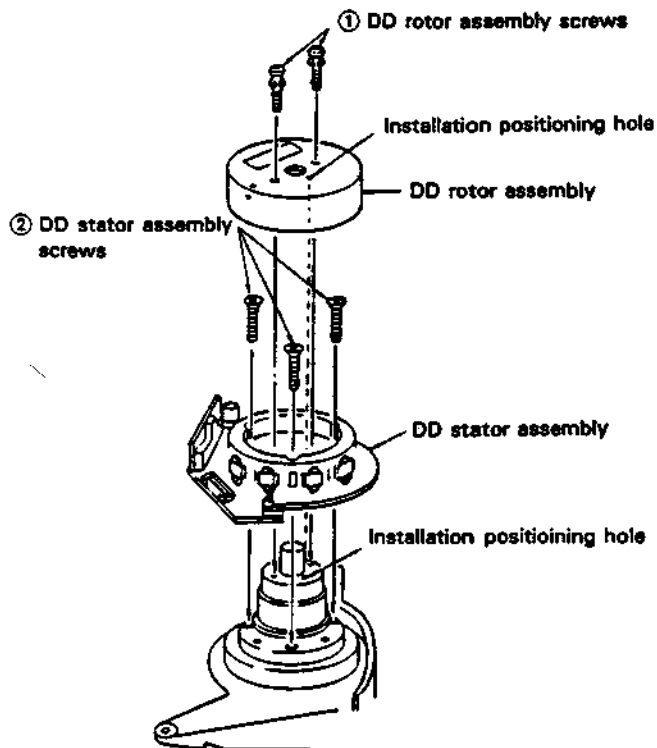

Figure 1-30
• Removal (Fig. 1-30.)
1. Remove the two screws ① (SW3P+5S) which hold the D.D. rotor assembly in place, using a Phillips screwdriver.
3. Remove the three brass screws ② (2.6P+14S) which hold the D.D. stator assembly in place, using a Phillips screwdriver.
Insert directly into the direction of the shaft. (Refer to Fig. 1-30 for the installation direction.)